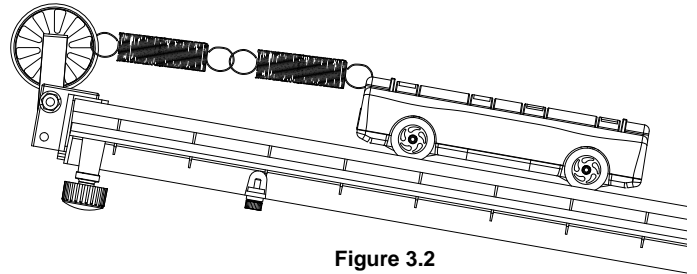

Figure 3.2
- Add a second spring in series as shown in Figure 3.2 and repeat step 5.